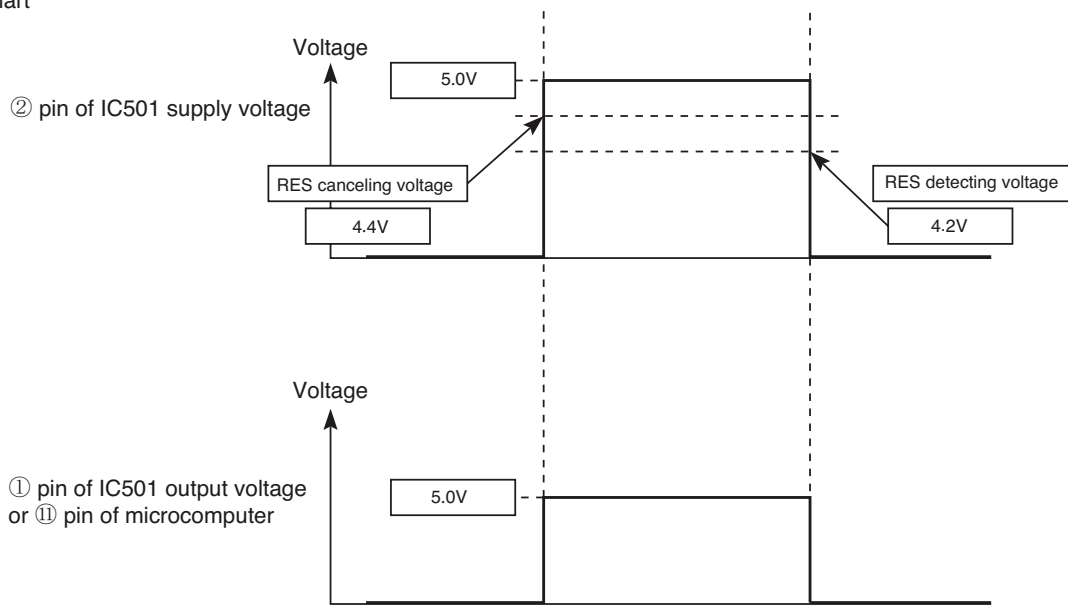

Fig.2-2
- Microcomputer operates when ⑪ pin of the indoor unit microcomputer (reset input) is "Lo" for resetting and "Hi" for heating.
- Waveform of each part when switching ON the power and when shutting down is shown in the Fig. 2-2.
- After switching ON the power, ① pin of IC501 supply voltage and ⑪ pin of microcomputer becomes Hi when DC5V line rises and reaches approximately 4.4V or higher.